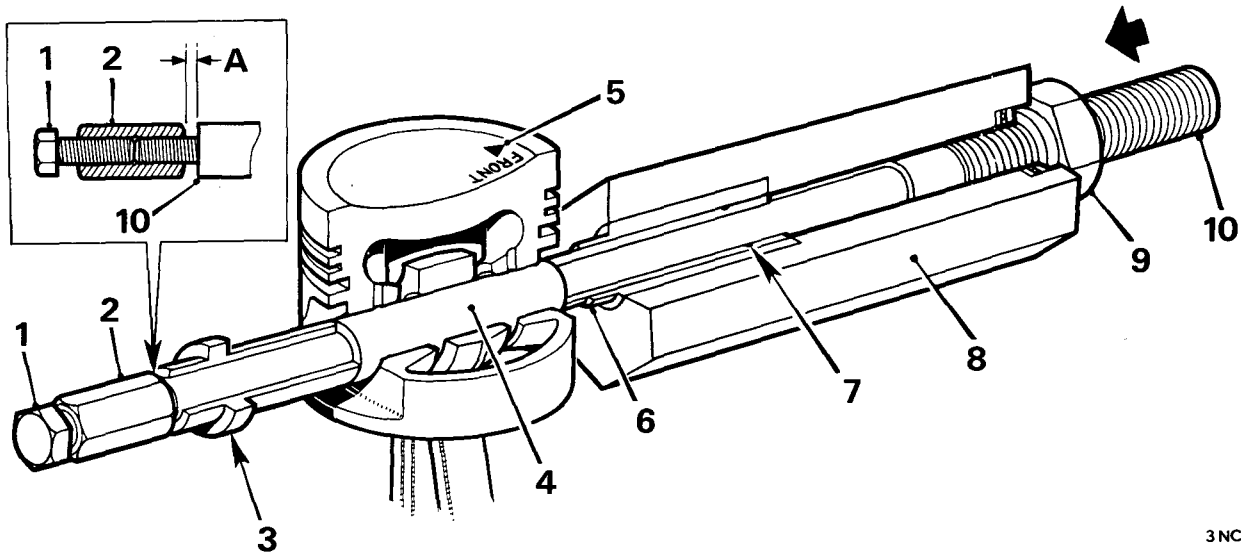

Fig. A.32
- Screw the stop nut onto the centre screw and adjust to the correct end-float ('A' Fig. A.32). Lock the stop nut securely with the lock screw.